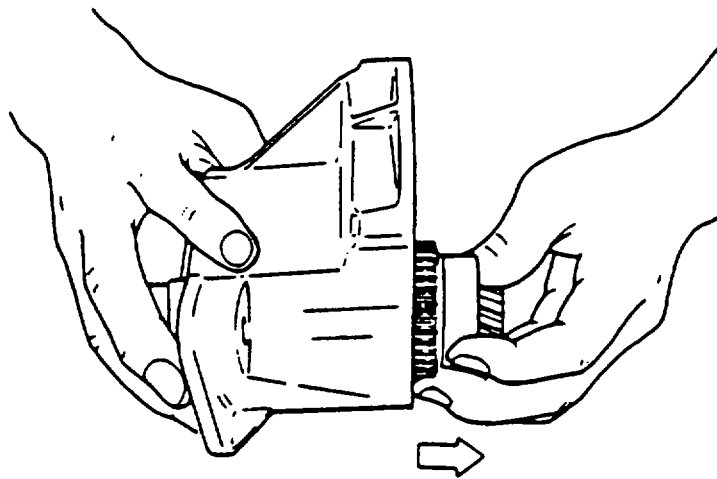

FIGURE 3-22. Removing Overrunning Clutch (Typical)
- h. Remove overrunning clutch (17, FIGURE 3-15) from housing (16), refer to FIGURE 3-22.